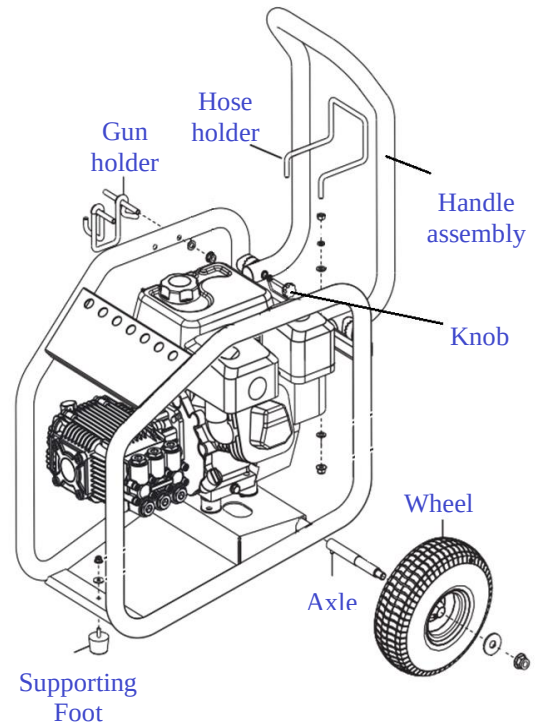

Fig. 3
4.3- Assembly - PRNHP22T (as illustrated in Fig. 3)
- Loosen the knob to unfold the handle as shown in Fig. 3, then tighten the knob.